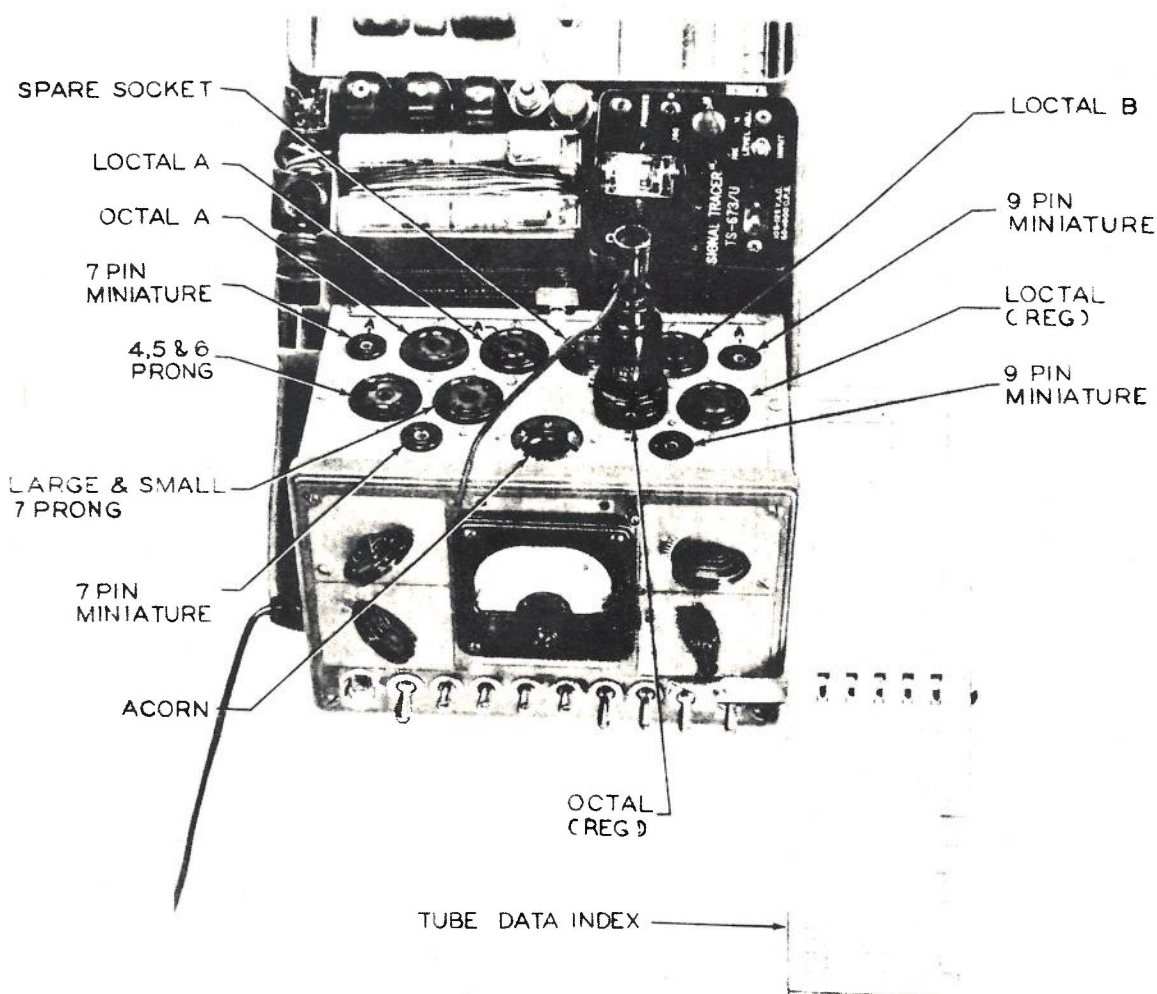

Figure 4-2. Tube Tester in Operating Position
b. **PRELIMINARY OPERATION.** - To set up the Tube Tester in operating position, unlatch the Test-Tool Set cover by opening the two snap catches on the front or handle side. Open the cover and remove the Technician's Handbook. Then tilt the Tube Tester forward into position about 45 degrees from the bottom of the case, exposing the socket panel until the locking arm locks into place. (See figure 4-2.)
Determine whether the tube has a center tap filament as indicated on the tube chart by a dagger (†) immediately following the tube type number. Tubes of this type require that the **A** toggle switch be indexed to the **IN** position before inserting the tube in the socket, and it should be kept in this position during the complete test. If a double dagger (††) occurs after the tube type number in the Tube Data Index, place the tube in the **A** socket of corresponding pin arrangement. If a target ⊕ occurs after the tube type number, use the **B** socket. If neither symbol occurs, use the regular sockets. See figure 4-2. Most tubes use the regular socket, and **NORMAL** position of the **CIRCUIT SELECTOR**. Set the meter pointer to the line check position by adjusting the **LINE VOLTAGE** control. If practicable, let the tube warm up about five minutes in order to detect shorts which occur due to the heating of the elements.
d. SUMMARY OF OPERATION. - The step-by-step procedure listed in paragraphs (1) through (7) below must be followed as a set-up preliminary to making any of the three tests which follow. The three tests should also be followed in consecutive order, i.e., first make the short test, then the emission test, followed by the open test.
(1) Plug the device into a 105 to 125 volt, 50 to 1600 cycle supply.
(2) Rotate the CIRCUIT SELECTOR to the LINE SHORT CHECK position.
(3) Set the FILAMENT SELECTOR in accordance with the tube data.
(4) If a single dagger (†) appears following the tube type number, index the A toggle to the IN position before inserting any tubes.
(5) Insert the tube in the socket corresponding to the proper pin arrangement. (See figure 4-2) If a double dagger (††) appears after the tube type number on the tube data chart, the A socket should be used. If a symbol (⊕) appears after the tube type number, use the B socket. Neither symbol indicates the regular sockets.
(6) Rotate the LINE VOLTAGE control until the pointer indicates at the LINE CHECK mark.
(7) Rotate the TUBE SELECTOR to the figure indicated on the tube data chart. The Tube Tester is now ready to perform the following tests: